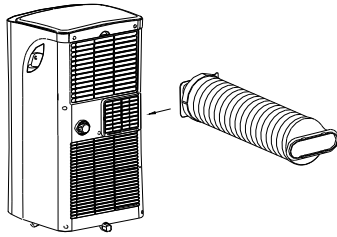

Fig. 18
2. Push the Exhaust hose into the air outlet opening along the arrow direction (See Fig. 18).